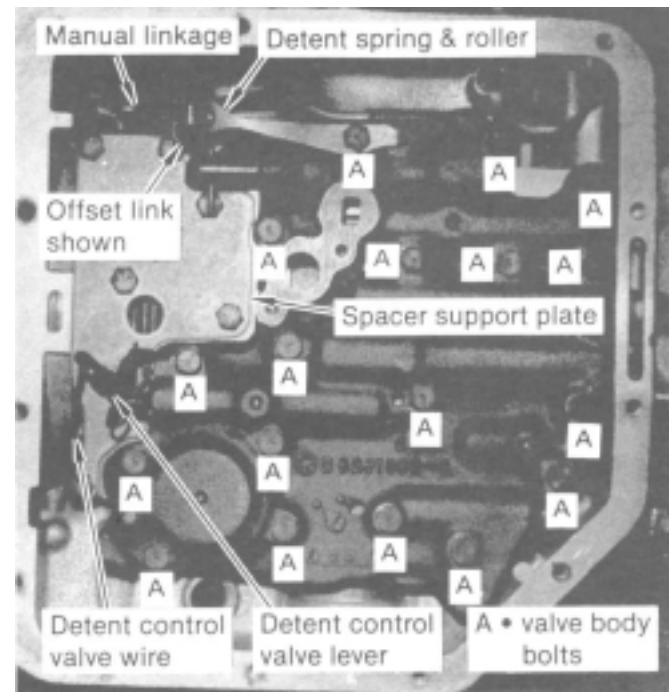
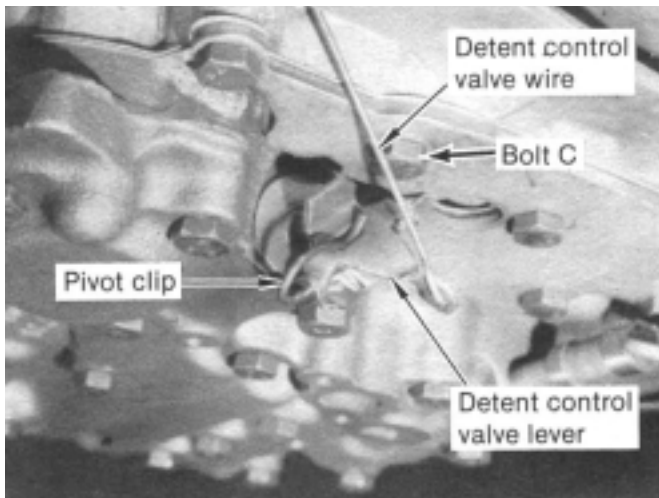

FIGURE 2
FIGURE 3
STEP 3. Observe the location of the following: (See Fig. 2) Manual linkage, detent spring and roller, S-link or offset link, detent control valve wire and lever, and support plate.
STEP 4. Remove pivot clip holding detent control valve lever in place. (See Fig. 3) Remove lever also and set them in the tray. Remove eighteen valve body attaching bolts. (See Fig. 2) Leave drain pan positioned as there is still oil between valve body and separator plate. Remove
STEP 5. Remove support plate bolts and support plate. (See Fig. 2) Remove stock separator plate, gaskets and four check balls. You will not reuse your stock separator plate. Leave drain pan positioned as there is still oil between separator plate and case. Check balls are between the plate and case. If front servo assembly falls out install it back in position with grease to retain it. Order of assembly is: spring, retainer, pin, washer and piston. See Fig. 5A,
STEP 14. Connect detent control valve lever to detent cable wire. Position lever on body. Install pivot clip. (See Fig. 3) if pivot clip contacts spacer support plate and does not fully seat into slot on detent control lever, trim pivot clip until just clears support plate. Detent control lever must pivot freely for correct operation. If detent control valve lever contacts bolt ‘C’ (See Fig. 3), Remove lever and file or grind clearance. Tighten screws securely.